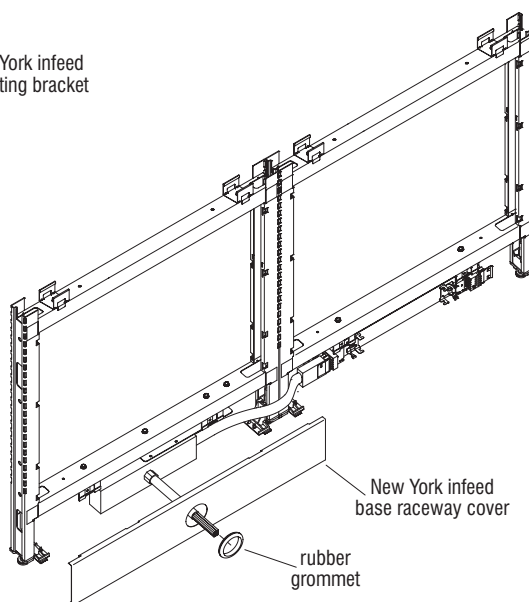

Figure 16 - New York Base Infeed
4. Install the unique New York infeed base raceway cover as illustrated, and install rubber grommet (Figure 16).